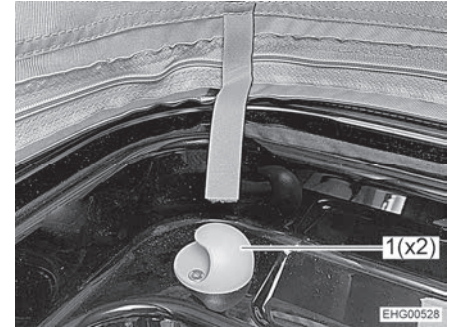

Fig. 63 Holder
- Attach the safety net to the two holders (Fig. 63,1).